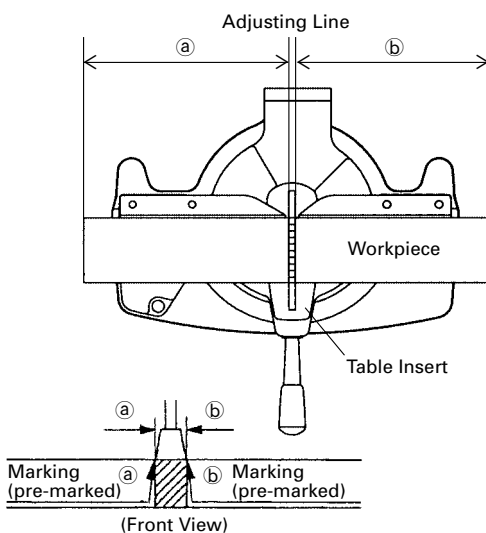

Fig. 17
- (1) As shown in Fig. 17 the width of the saw blade is the width of the cut. Therefore, slide the workpiece to the right (viewed from the operator's position) when length (b) is desired, or to the left when length (a) is desired.
- (2) Once the saw blade reaches maximum speed, push the handle down carefully until the saw blade approaches the workpiece.
- (3) Once the saw blade contacts the workpiece, push the handle down gradually to cut into the workpiece.
- (4) After cutting the workpiece to the desired depth, turn the power tool OFF and let the saw blade stop completely before raising the handle from the workpiece to return it to the full retract position.